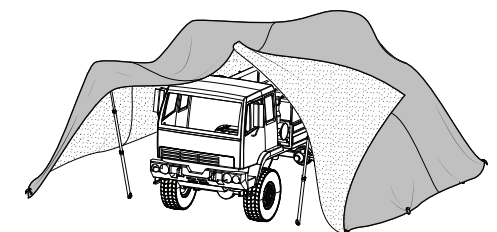

Figure 14.
- a. Untie Becket seam enough to let vehicle pass through (figure 14).